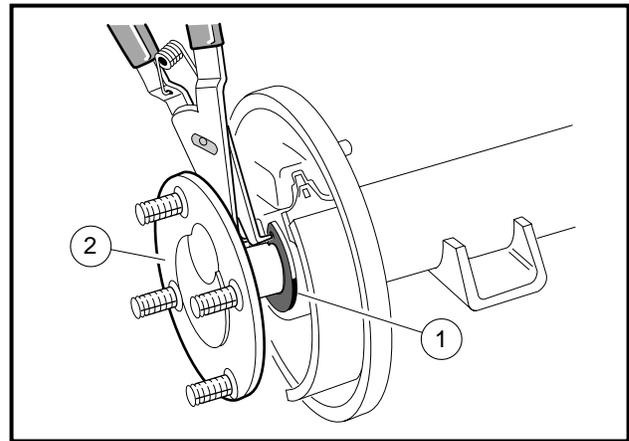

Figure 6-3 Remove Axle Retaining Ring
- 5.1. Using snap ring pliers, remove the axle retaining ring (1) (**Figure 6-3, Page 6-3**).
- 5.2. Pull the axle shaft (2) from the axle tube (**Figure 6-3, Page 6-3**).
7. Install the axle shaft into the axle tube and install the retaining ring (**Figure 6-3, Page 6-3**).
- 4.1. Using snap ring pliers, remove the axle retaining ring (1) (**Figure 6-3, Page 6-3**).
- 4.2. Pull the axle shaft (2) from the axle tube (**Figure 6-3, Page 6-3**).